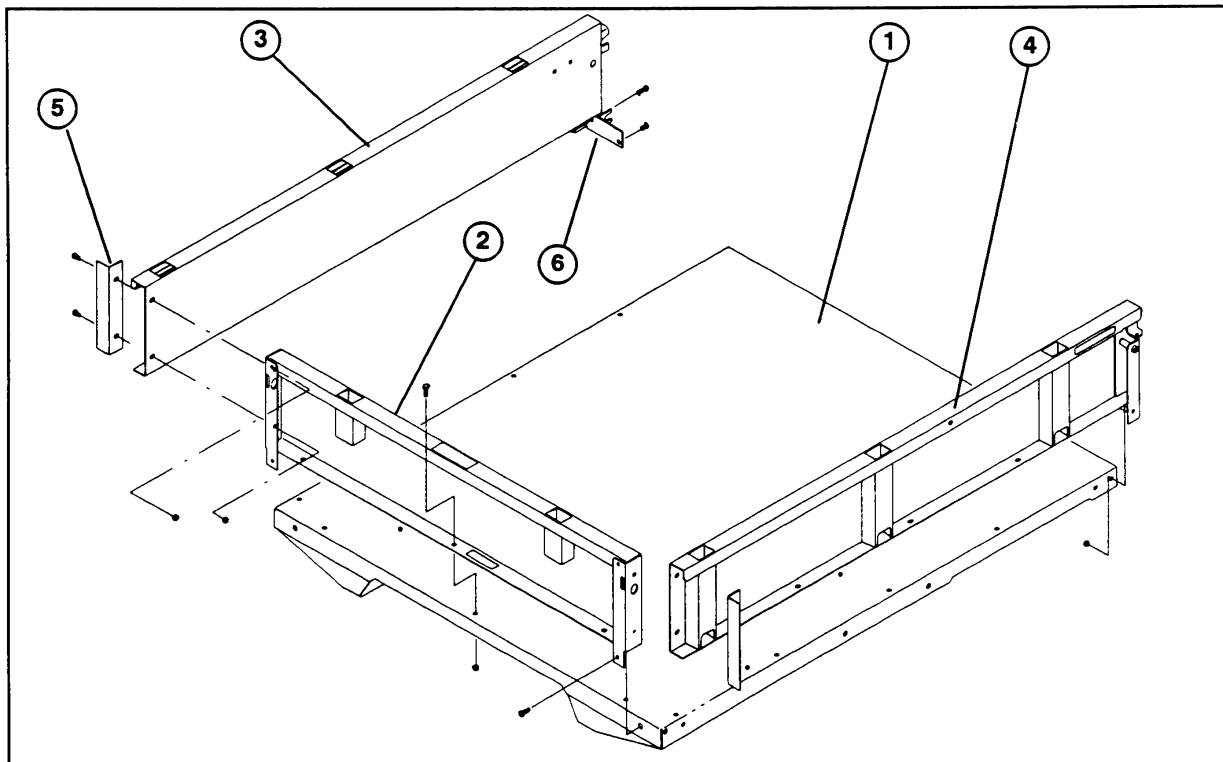

Figure 2
2. Loosely secure panel to top and front of bed with (5) 5/16-18 x 5/8" lg. capscrews and flange locknuts (Fig.2).
3. Position right and left side panels on bed and align mounting holes. Loosely secure panels to top and sides of bed and ends of front panel with side angles, 5/16-18 x 5/8" lg. capscrews and flange locknuts. (12) capscrews and flange locknuts are required for installation on a full area flatbed or (10) on a 2/3 area flatbed. Position side angles as shown in figure 2. Do not secure rear sides at this time.
8. Place a pivot bracket over each lower pivot pin on tailgate (Fig. 2).
9. Lift tailgate into operating position. While lightly pushing forward on the bottom of the tailgate, secure pivot brackets to right and left side panels and bed with (2) 5/16-18 x 1" lg. capscrew, flatwashers and flange locknuts (Fig. 2).